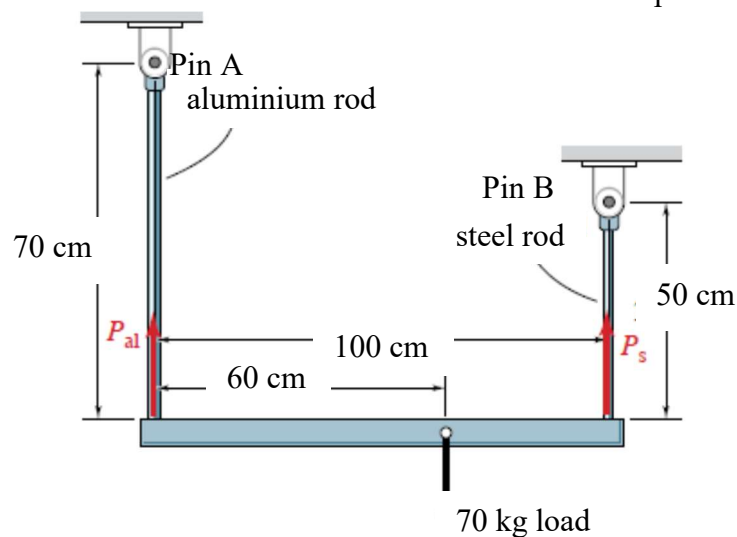

Fig. 1
- b) The aluminium rod and steel rod in **Fig. 1** are spaced 100 cm apart and fastened to a horizontal beam that carries a 70 kg load. Assume that the beam is weightless and rigid.